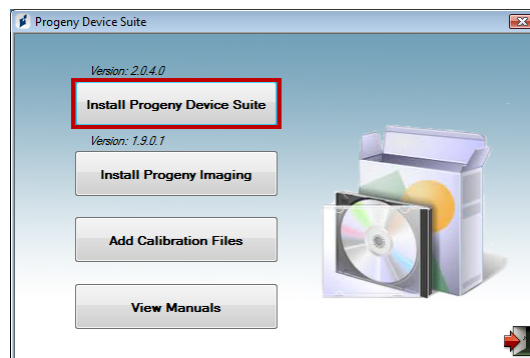

Figure 3: Starting the Progeny Device Suite installation
- Start the installation process by clicking on ‘Install Progeny Device Suite’ button (Figure 3).